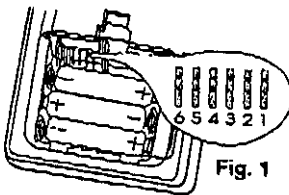

Fig. 1
- 1) Open the battery cover of chime, there are 8 pins (as Fig.1). To change the code simply remove one or more of the clips covering the pins. There are 64 selectable settings.